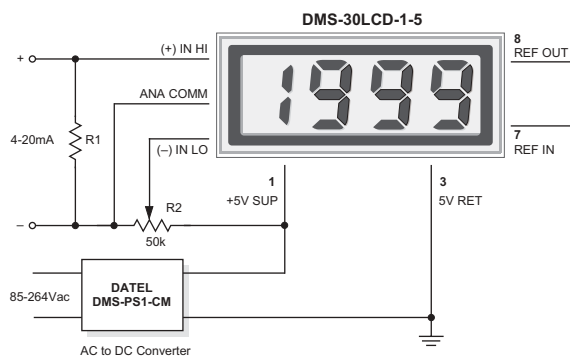

Figure 7. 4-to-20mA Current Loop Operation (5V-Powered Models)
- 5. Process Control (4-to-20mA) Measurements:** In many common process-control applications, a 4-to-20mA current loop is used to transmit information. Because DMS-30LCD meters have such high input impedance, a simple shunt resistor across the meter's input can be used to convert the loop current to a voltage. See Figure 7. The value of the shunt resistor is a
To calibrate the circuit of Figure 7, perform the following: